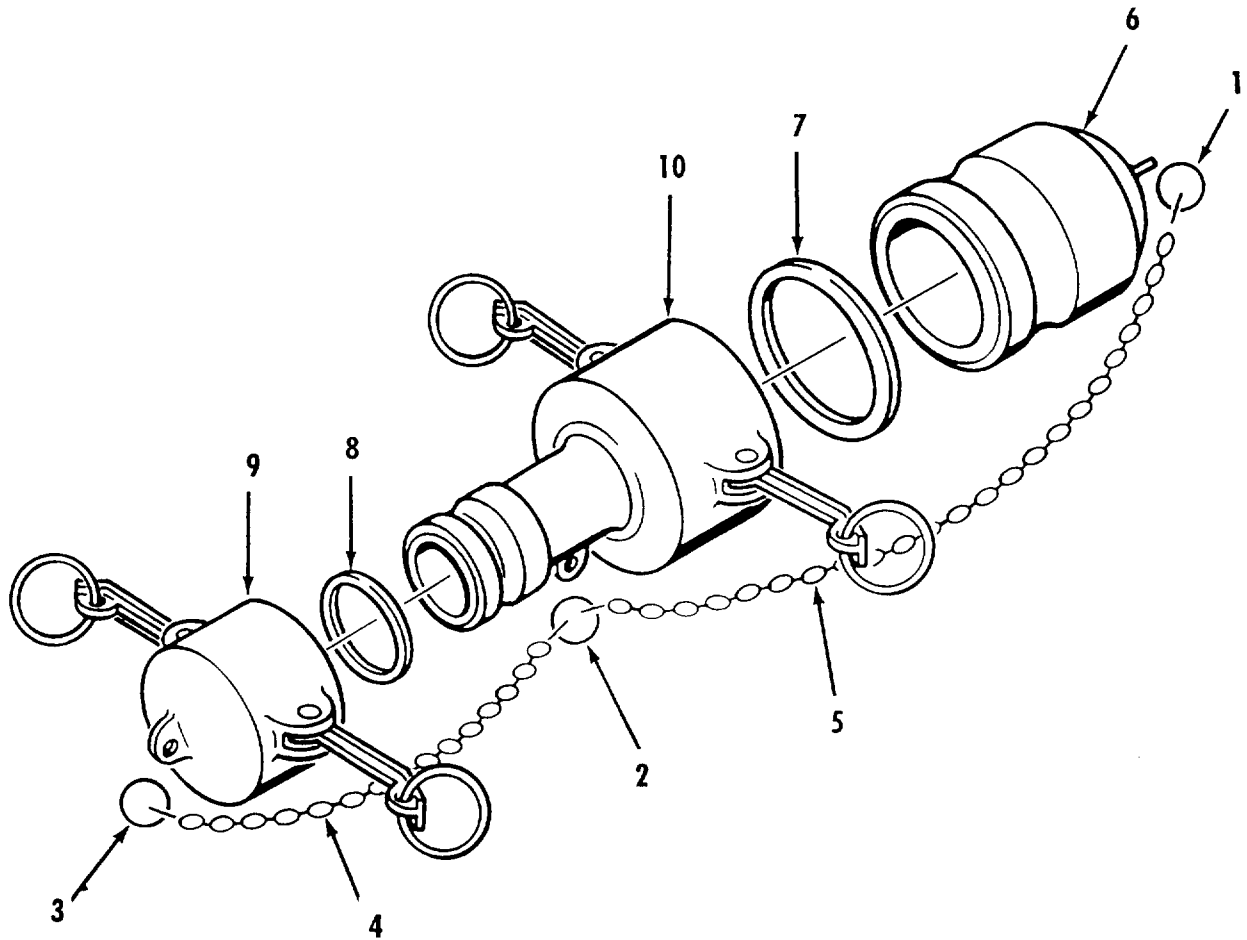

Figure 4-4. Reducer Repair.
- a. Disassembly. Refer to figure 4-4.
- (1) Disconnect split rings (1, 2 and 3) and remove chains (4 and 5).
- (2) Remove dust plug (6) from female end of reducer (10).
- (3) Remove gasket (7) from female end of reducer (10).
- (4) Remove dust cap (9) from male end of reducer (10).
- (5) Remove gasket (8) from dust cap (9).
- d. Assembly. Refer to figure 4-4.